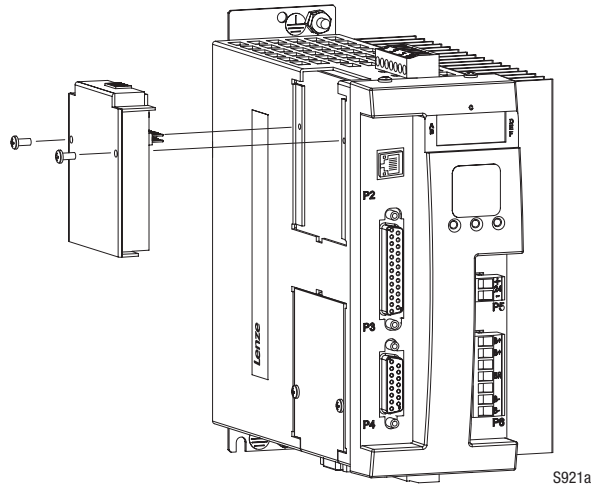

Figure 2: Installation of DeviceNet Communications Module
3. Install the DeviceNet Module and replace screws as illustrated in Figure 2.